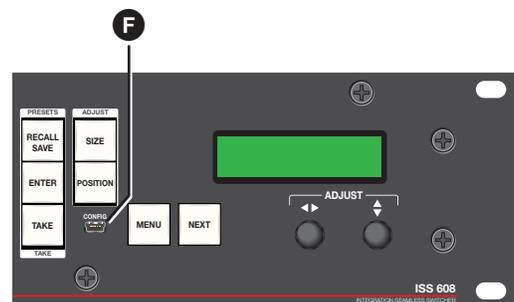
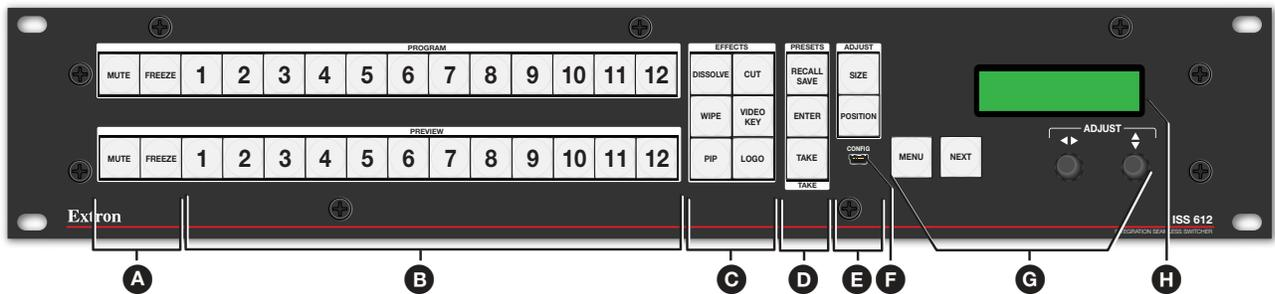

Figure 7. Front Panel Configuration Port
Figure 8. ISS 612 Front Panel
- **USB Configuration port** (see figure 7 or figure 8 on page 12) — This USB mini-B port serves the same serial communications function as the rear panel Remote port, but is easier to access than the rear port after the switcher has been installed and cabled.
All of the switcher controls and indicators, with the exception of the Reset button, are on the front panel (see figure 8). The 16 x 2 character LCD window indicates the switcher status, menu selections, the data rate, and the status of additional system features.
- Ⓒ **EFFECTS buttons** (see figure 8 on page 12) — Press one of these **EFFECTS** buttons to select the effect to use to transition between the Preview output to the Program output (see Effect Configuration Menu on page 21).